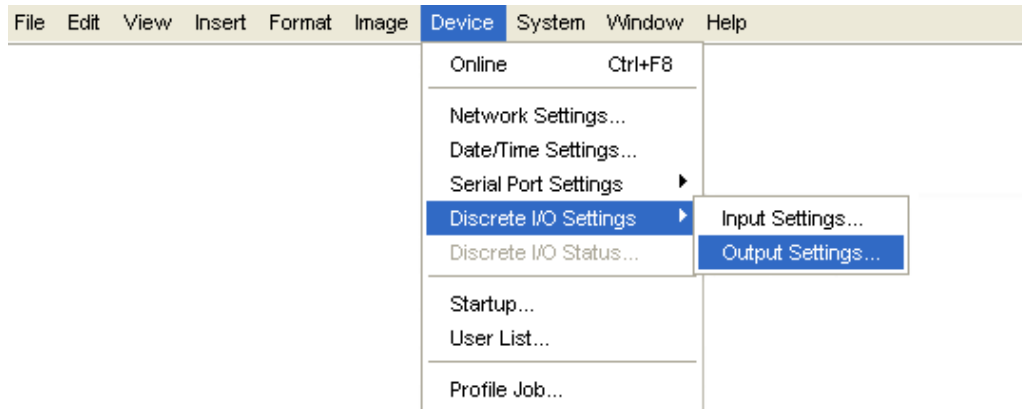

Figure 2-5: Accessing the I/O Output Settings
3. From the **Device** menu, select the **Discrete I/O Settings** submenu. Select the **Output Settings** option (Figure 2-5).